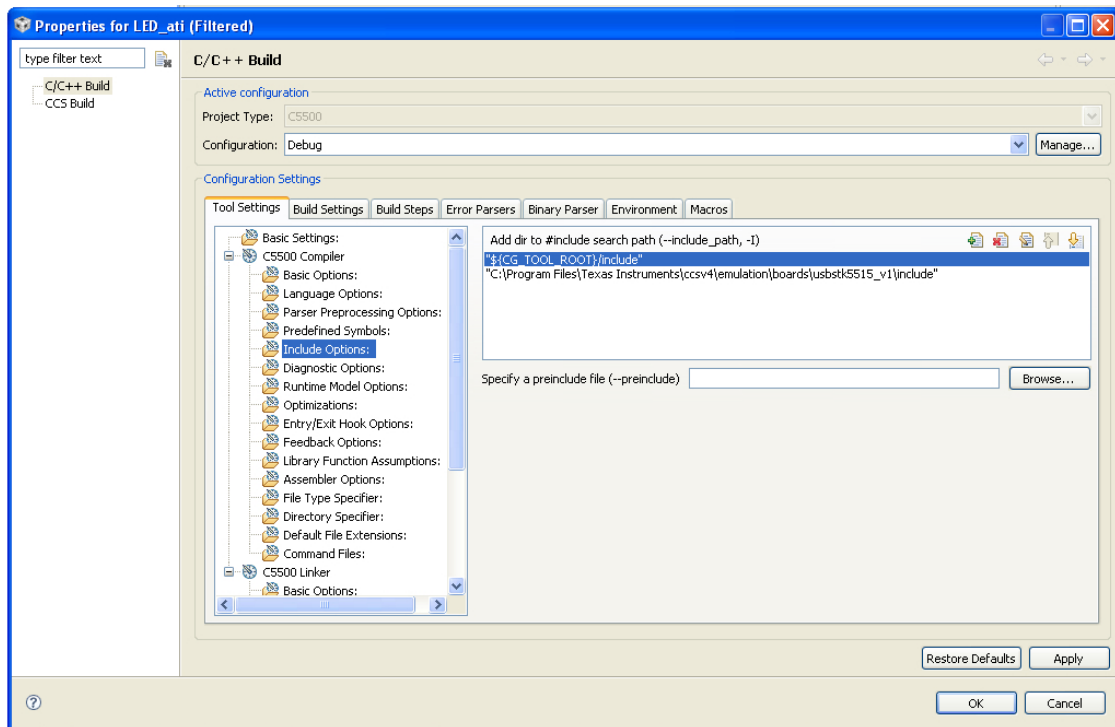

Figure 4: CCS interface demonstration showing include options for the LED project.
- From **C5500 Compiler**, select **Include options** and add the path `Program Files (x86)/Texas Instruments/ccsv4/emulation/boards/usbstk5515_v1/include`. This is shown in Fig. 4.